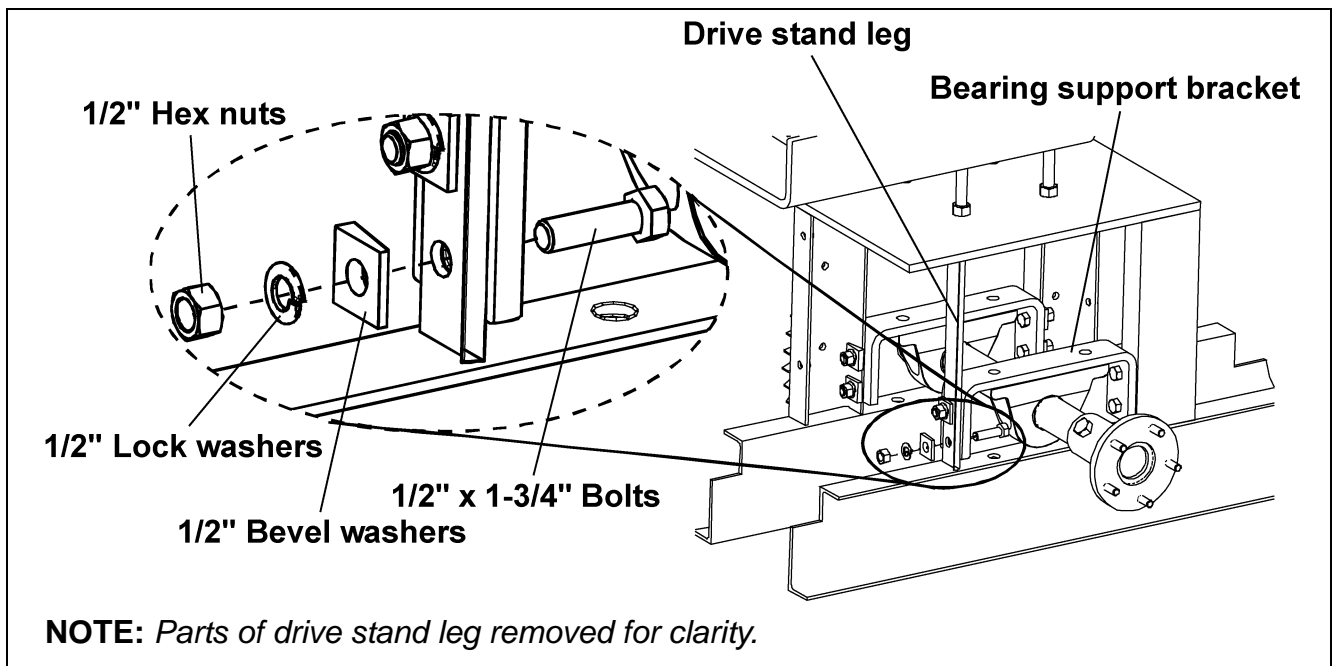

Figure 5S
E. Bolt the bearing support brackets to the legs of the tractor drive stand using 1/2" x 1-3/4" bolts, 1/2" lock washers, 1/2" bevel washers and 1/2" hex nuts. (See Figure 5S.)